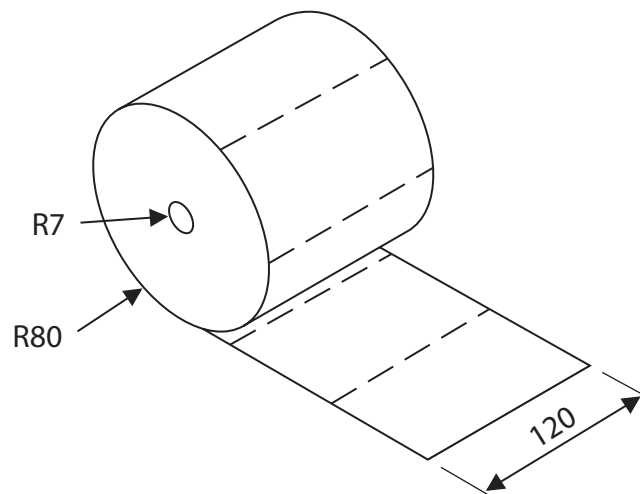

Figure 7
- 5 Figure 7 shows a design solution for a label dispenser together with some additional information.